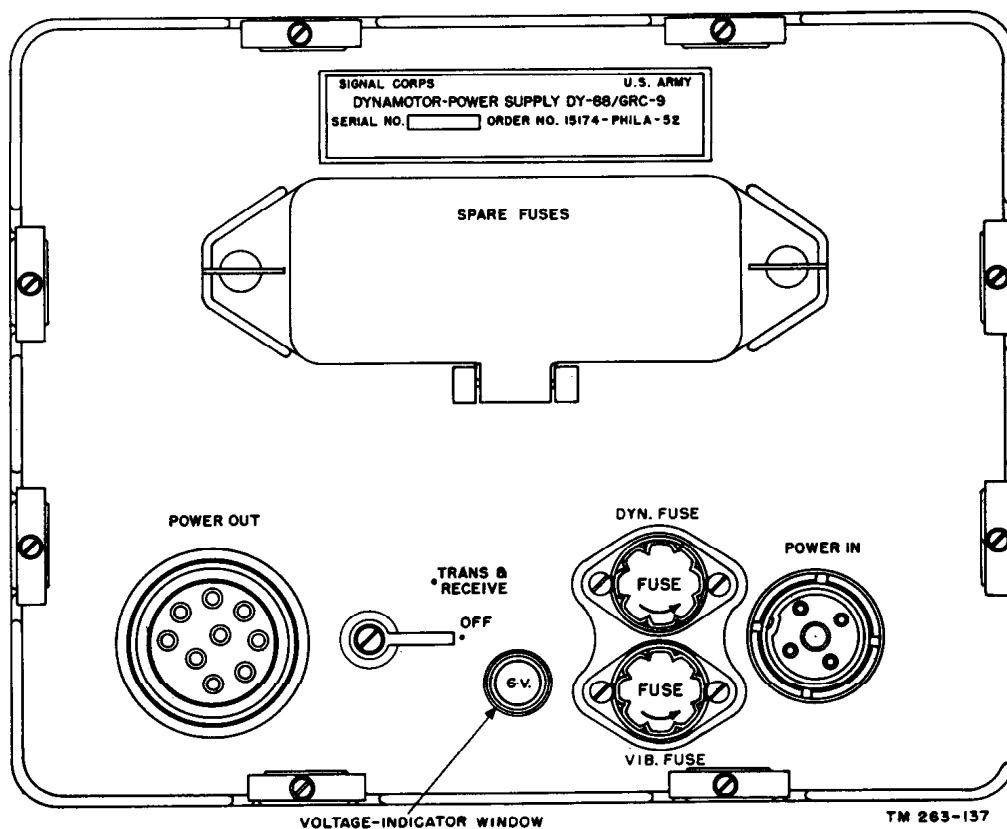

Figure 45. Dynamotor-Power Supply DY-88/GRC-9, front panel controls.
a. Dynamotor—Power Supply DY-88/GRC-9 (fig. 45).